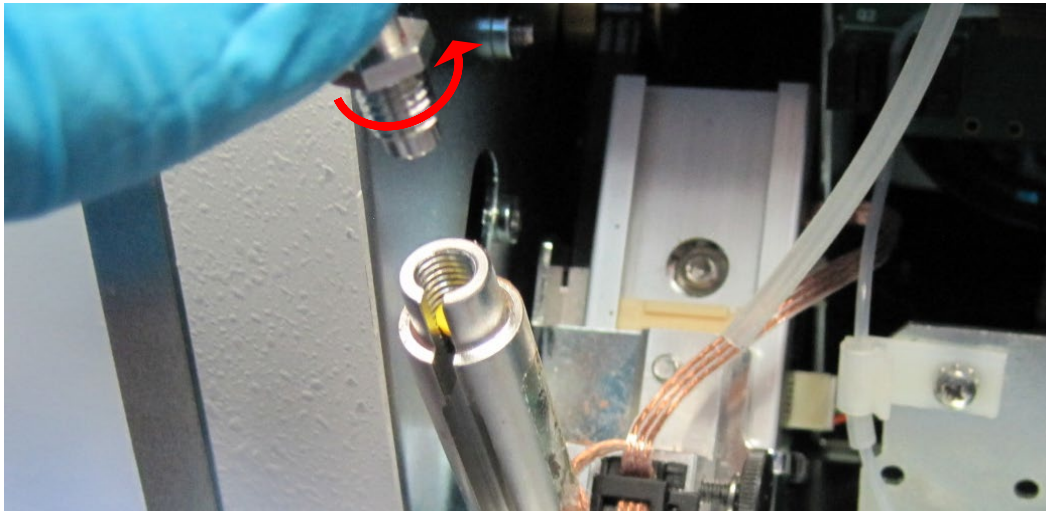

Figure 12
- 3.6. Use the Open-End Wrench included in the kit to unscrew the old Needle Tip Assembly (counter-clockwise) from Needle Piston Assembly. Figure 12